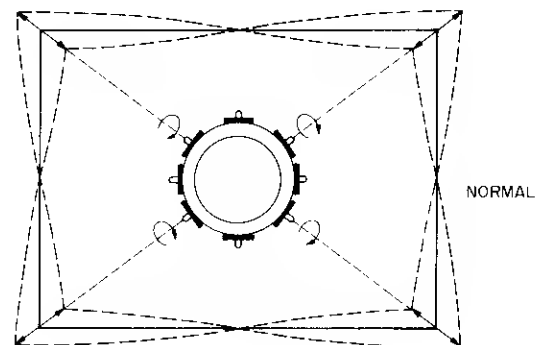

Figure 5-63.
Step 1. Push the magnet on the yoke mounting pin as shown Figure 5-63. A magnet should be placed only on the pin that corresponds to the affected area.
Perform this adjustment if the CRT exhibits the abnormal effects as shown in Figure 5-63.
Step 1. Push a magnet onto the yoke mounting pin as shown in Figure 5-63. Magnet should be placed only on the pin that corresponds to the affected area.
Step 2. Rotate the magnet to obtain the desired video display, labeled "NORMAL" in Figure 5-63.